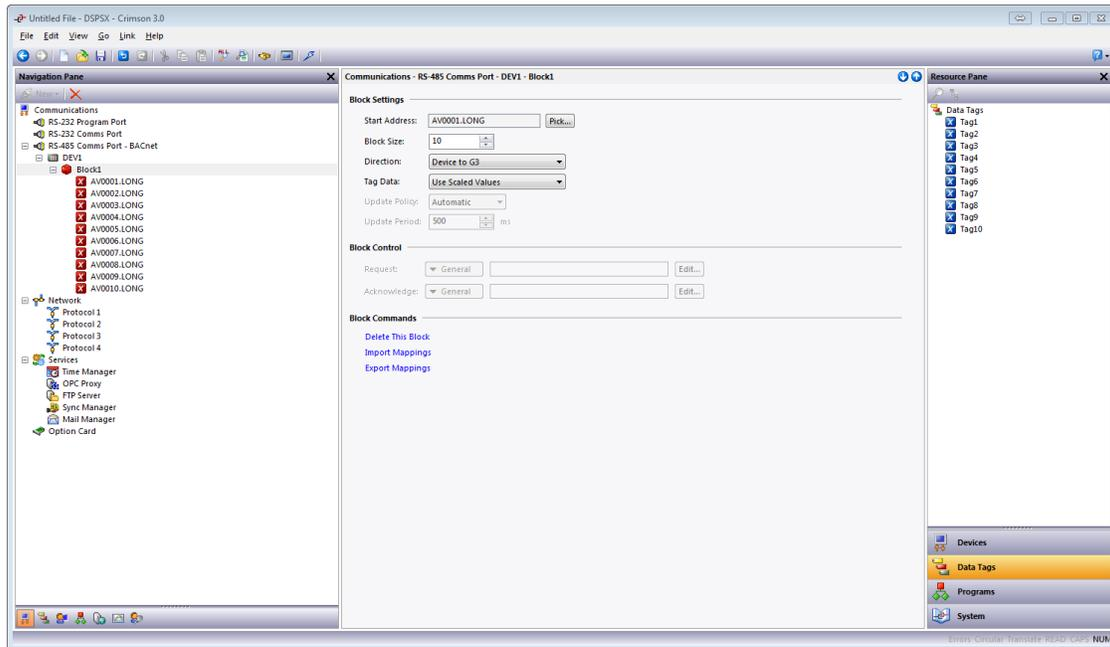

Figure 5.
12. Referring to Figure 5, set the **Block Size:** field to the desired number of data points; *10* in this example.